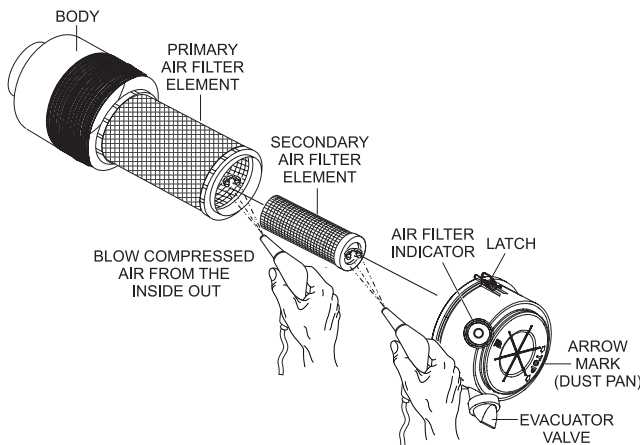

Figure 176. Engine Air Cleaner
The air cleaner (Figure 176) provided with this Isuzu diesel engine is equipped with a replaceable, high-density, paper air filter element. The air cleaner is also equipped with an inner (secondary) element that is used as a backup filter should the primary element become damaged. Check the air cleaner daily or before starting the engine. Replace the air cleaner as needed.
1. Release the latches that secure the cover to the air cleaner body (Figure 176).
2. Remove the **air cleaner cover** (Figure 176) and set it aside.
3. Remove both the primary and secondary air cleaner elements (Figure 176).
5. To clean the **primary element** (paper air filter) as shown in Figure 176, tap the filter element several times on a hard surface to remove dirt, or blow compressed air, not to exceed 30 psi (207 kPa, 2.1 kgf/cm²), through the filter element from the inside out.
8. Clean the inside of the **air cleaner body** (Figure 176).